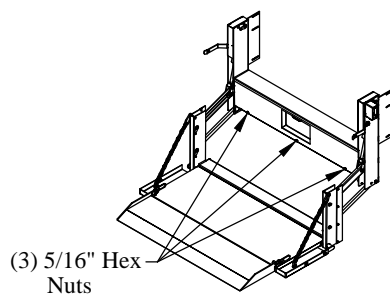

Figure 19: Box cover locations.
1. **Remove** the box cover by removing the 5/16" hex head nuts (Figure 19).